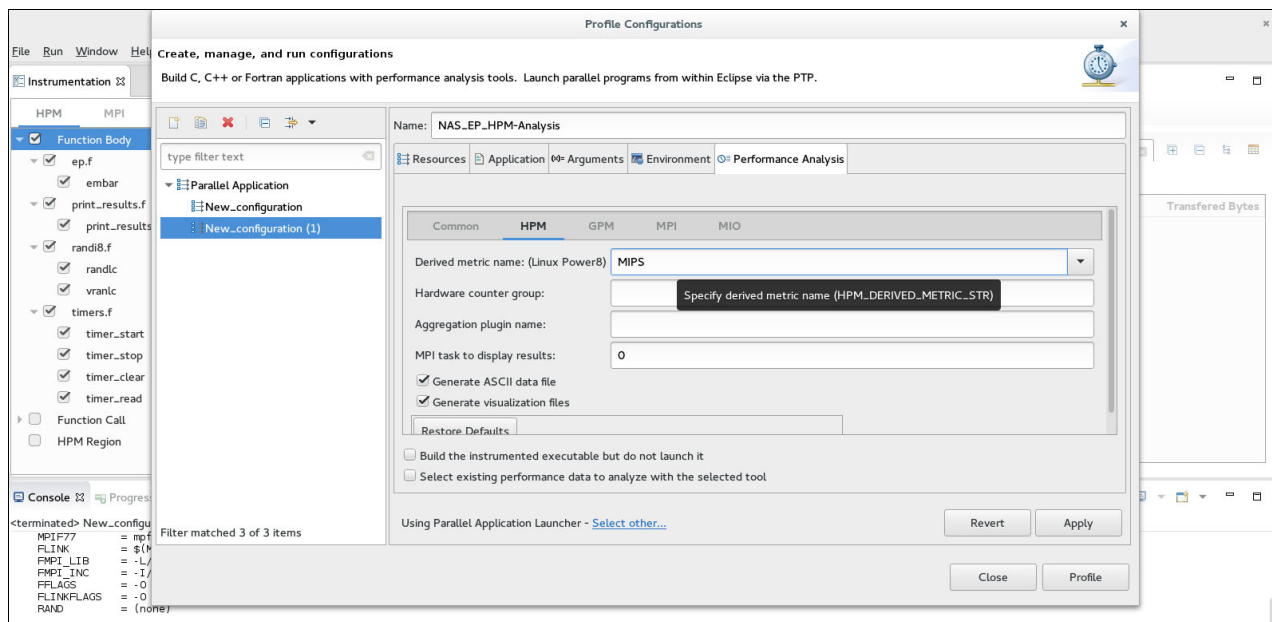

Figure 6-12 HPM tool
3. Click the Performance Analysis tab. This tab contains the options of the profiling tools that can be entered as shown in Figure 6-12.